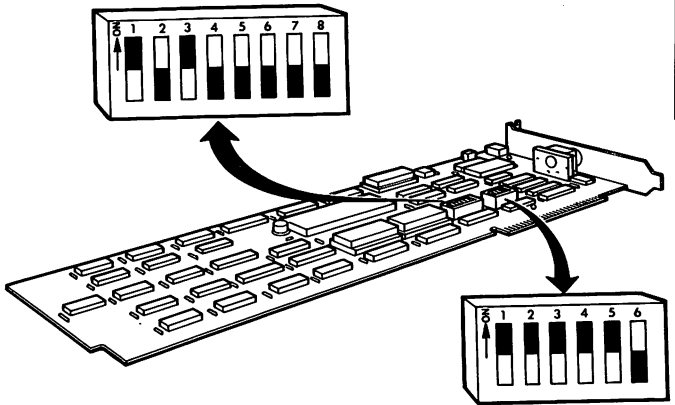

Figure 2-2. Location of DIP switches.
3. Locate the DIP switches on the coax option board. See Fig. 2-2.